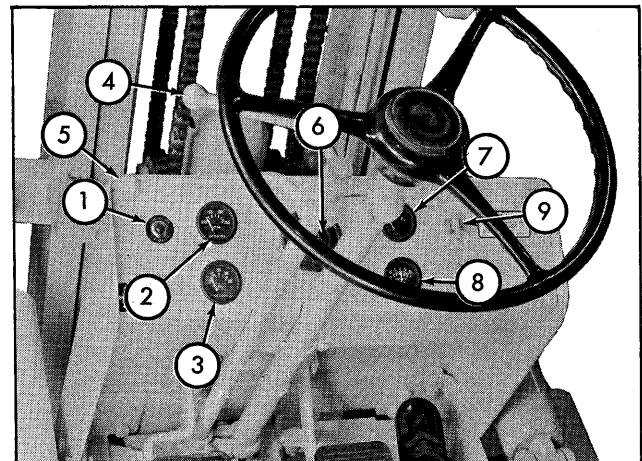
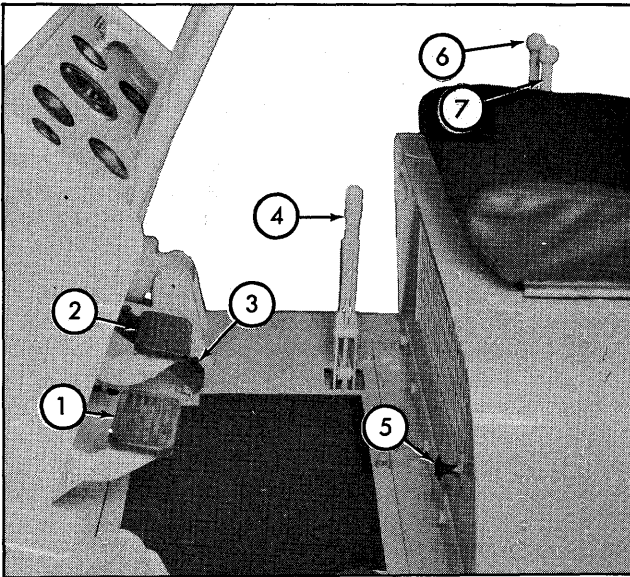

Fig. 1-8. Instrument Panel
Figure 1-9. Controls
b. Position the forward-reverse shift lever (4, figure 1-8) in neutral. A neutral starting switch prevents the engine from starting unless the lever is in neutral.
c. Engage the ignition-starter switch (9, figure 1-8) and release it as soon as the engine starts. Do not engage the starter longer than eight seconds. If the engine fails to start on the first try, allow the engine and starting motor drive to come to a complete stop before making a second attempt. This will prevent damage to the starting motor housing, the drive, and the fly-wheel ring gear. On a gasoline engine, it may be necessary to use the choke (5, figure 1-9). When the engine starts, allow it to warm up gradually to its normal operating temperature (approximately 180° F.). Do not race the engine during this warm-up period.
If, after starting the engine, there is very little or no pressure indicated on the engine oil pressure gage, or if there is a sudden drop in pressure while operating the lift truck, stop the engine immediately and determine the cause. Correction usually consists of replenishing the crankcase oil supply. Located on the instrument panel is a red warning light (1, figure 1-8). This light will glow only when the transmission lubricant temperature is excessive and indicates that the transmission oil supply is dangerously low or restricted and the situation must be remedied before further lift truck operation.
2-17. INCHING INSTRUCTIONS. The inching valve is controlled by the inching pedal (1, figure 1-9). The upper portion of pedal travel provides inching control; the lower portion of pedal travel applies the service brakes. Depress the accelerator pedal with the right foot to maintain full engine speed while the inching feature is being utilized. Extremely slow ground speeds can be attained for operating in confined or dangerous areas, while the speed of the lift and tilt remains normal.
- a. Drive the lift truck to an area suitable for parking and place the transmission control levers in neutral. Apply the parking brake (4, figure 1-9).
2-22. Instruments and Controls (see figures 1-8 and 1-9).
2-23. OIL PRESSURE GAGE. The oil pressure gage (3, figure 1-8) does not indicate the amount of oil in the crankcase; it indicates the pressure of the oil in the engine lubricating system. The gage electrically senses the oil pressure and reflects it on the gage dial. With the engine at normal operating temperature and speed, the oil pressure should be between 25 and 35 pounds.
2-24. ENGINE TEMPERATURE GAGE. This gage (2, figure 1-8) indicates the temperature of the cooling fluid. Engine operation under normal conditions should register approximately 180 degrees on the gage. Temperatures excessively higher or lower than 180 degrees indicates a dirty or restricted radiator, loss of coolant, or a faulty thermostat or gage. Do not operate the lift truck until these conditions are corrected.
2-25. IGNITION-STARTER KEY. Turning the key (9, figure 1-8) energizes the starting motor which in turn drives the engine flywheel ring gear until combustion takes place in the engine.
2-26. AMMETER. The ammeter (8, figure 1-8) indicates the activity of the electrical system. If the needle indicates a continuous discharge when the engine is operating above an idle speed, the trouble would probably be a loose or broken fan belt, a short in some wire or component of the electrical system, or a faulty generator or regulator. The gage needle should move slightly to the positive side of the "O" mark on the ammeter when the engine is running at full governed speed and the battery is fully charged.
2-27. HOURMETER. The hourmeter (6, figure 1-8) reflects the actual hours of engine operation. Its main purpose is to be the determining factor as to when the lift truck components require maintenance or overhaul procedures.
2-28. WARNING LIGHT. The red warning light (1, figure 1-8) senses the transmission oil temperature and glows only when the temperature is in excess of proper operating limits. This condition is usually remedied by bringing the transmission oil level to full.
a. Gasoline. The fuel gage (7, figure 1-8) electrically senses and indicates the amount of fuel in the tank.
2-30. CHOKE CONTROL (GASOLINE ONLY). The choke control button (5, figure 1-9) is cable-connected to the choke disc in the carburetor assembly. Pulling forward on the choke button closes the choke disc, thereby enriching the air and gasoline mixture and providing quicker starting of a cold engine. Push the choke button in as the engine warms up to operating temperature.